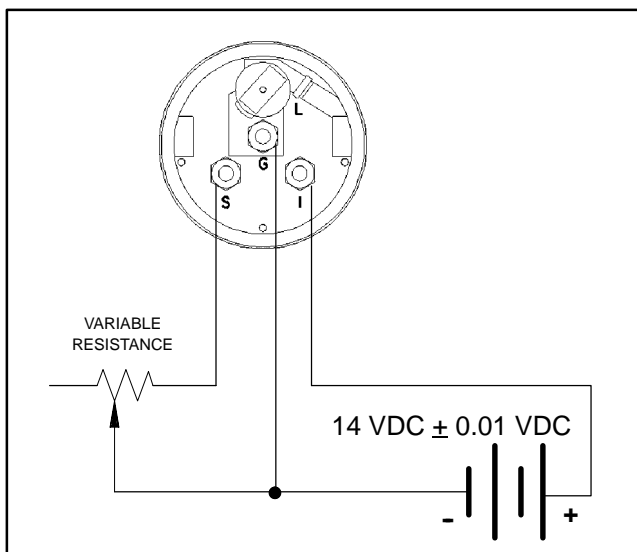

Figure 52
3. Connect fuel gauge to the variable resistance and DC voltage source (Fig. 52).